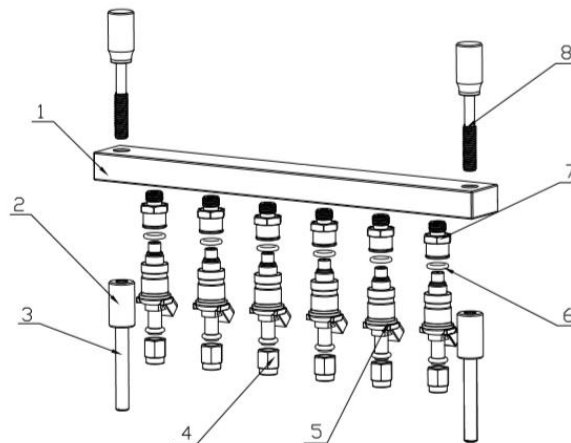

Figure 5.12
- 4) Adjust the screws to fix the fuel distributor and injector assembly in the oil filler hole of the upper cover according to the height of injector and tighten the compression screws on both sides evenly, as shown in Figure 5.12;